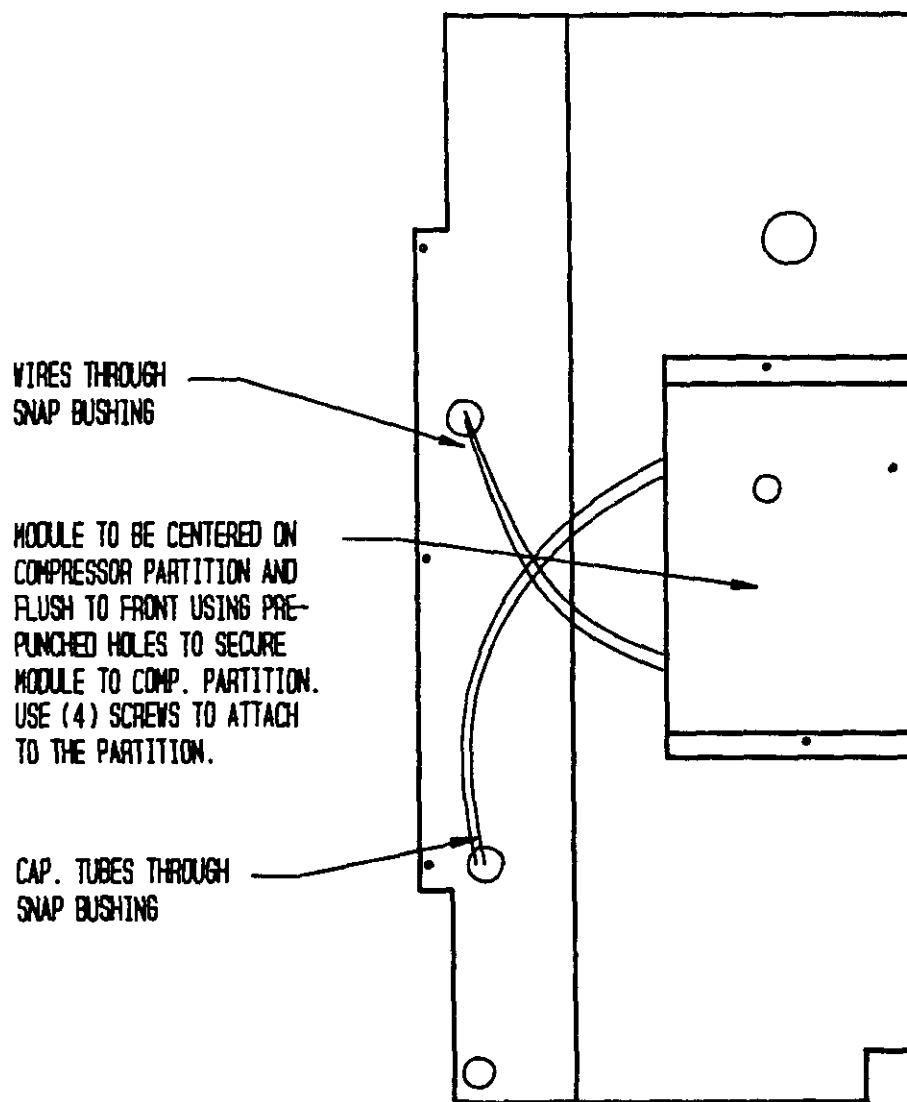

FIGURE 3
Install the basic control enclosure centered on the compressor partition above the control panel (see Figure 3). Secure the control enclosure to the compressor partition with (2) #10-16 x 1/2 screws provided in hardware bag.